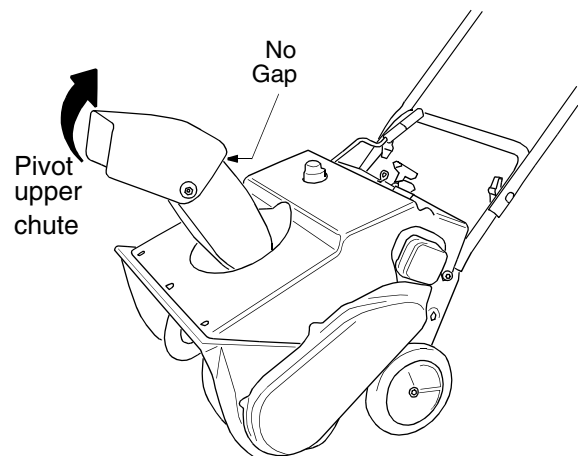

Figure 8
- Pivot the upper chute up so that there is no gap between the upper and the lower chute. See Figure 8. Secure with hardware just removed.